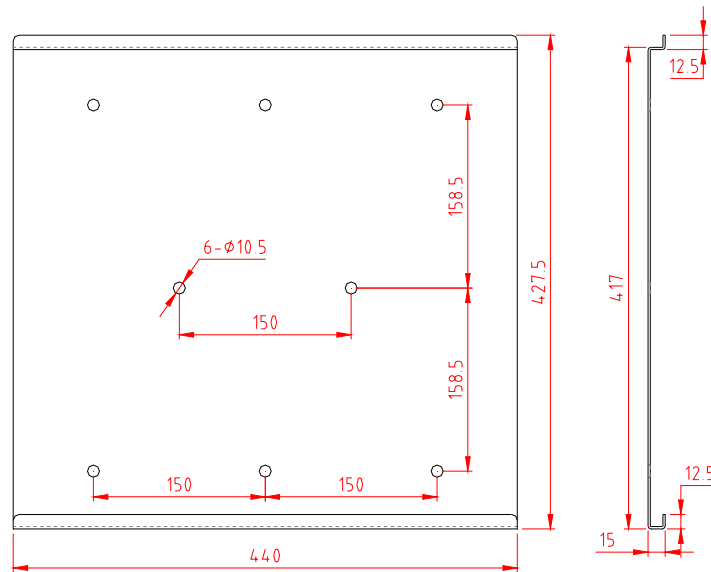

Figure 7 Structural diagram for wall plate
- (6) Securely fix wall plate onto wall with explosion screw, keep inverter upward, align the groove of hanging backing plate with the convex edge of wall plate and then slightly lower it. See the structural diagram for wall plate in Figure 7.